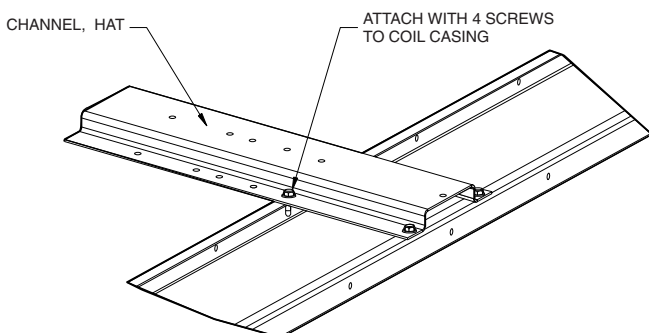

Fig. 48 — Secure Spacer
8. Secure the spacer (hat channel) to the top center of the lower coil casing (see Fig. 48).